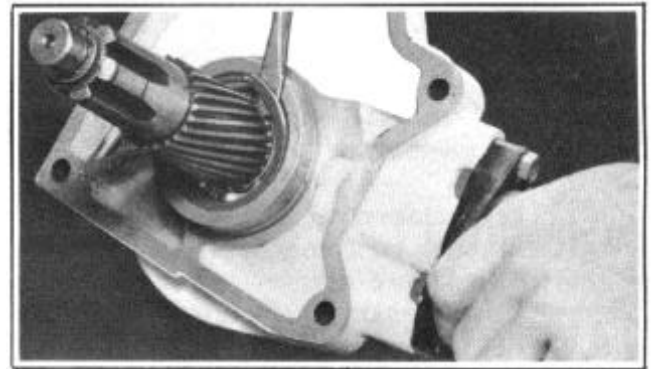

FIGURE 26
9. Remove the mainshaft rear bearing snap ring, Figure 26.